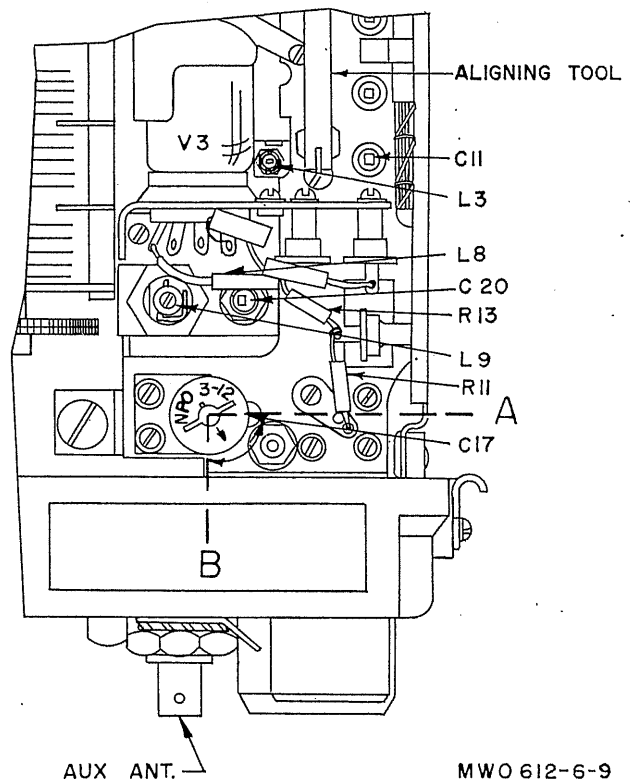

Figure 47. Location of controls used in transmitter alinement.
(fig. 47)
d. Adjust C17 to minimum capacitance by setting the arrow on this capacitor to point toward A as shown in figure 47.
q. Adjust C17 for correct zero on vtvm. If this zero cannot be obtained, obtain a reading as close as possible to zero, with C17 oriented with its arrow pointing within the range of A and B as shown on figure 47. (Adjust C17 only at the high end of the radio set TUNING dial at the frequencies indicated in l above.)
- (1) When the set is at the high alinement frequency and the rf power indicator is connected to AUX ANT jack J3, the voltage on the vtvm does not exceed .1 volt (without readjusting C11).